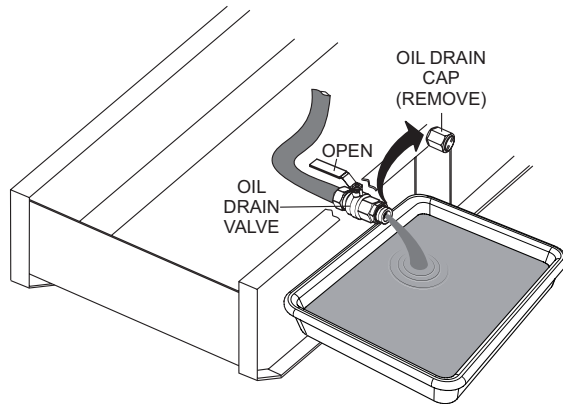

Figure 72. Draining The Engine Oil
4. Remove the **oil drain cap** (Figure 72).